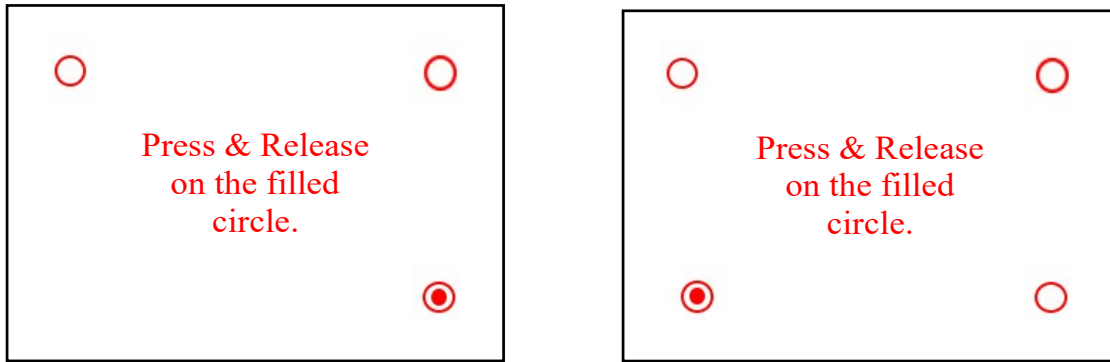

Figure 5-32 Fourth and Fifth Calibration Screens
- The fourth and fifth alignment screens are shown in Figure 5-32;
- Figure 5-32 shows the final alignment screen. Touching the filled circles properly completes the alignment process.